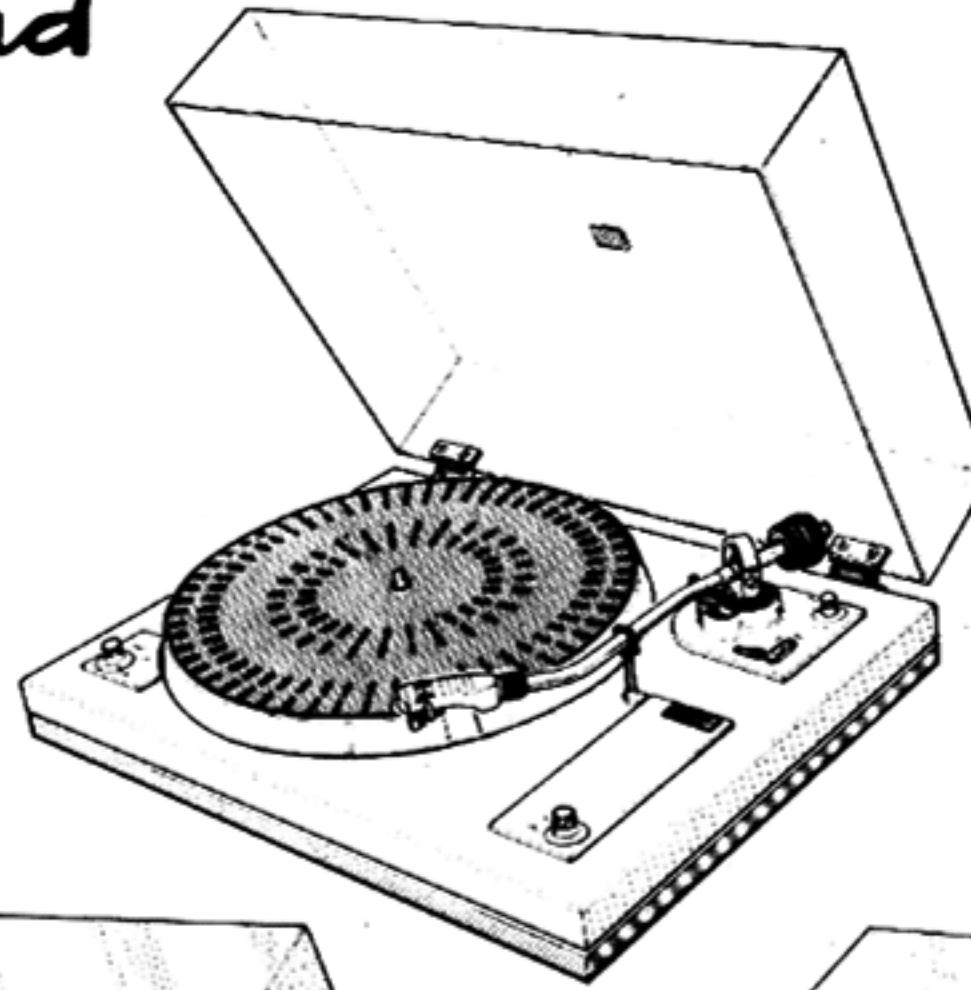

Fig. 3b
- 3(a) If there is a cartridge in the pickup head shell already, attach the shell to the pickup arm. To do this, secure the pickup arm to its rest, then fit the locating pin on the shell into the slot at the front of the pickup arm tube (Fig. 3b). Press the head gently inwards while turning the locking collar fully counterclockwise until the pin engages the collar as it turns and the head is drawn in firmly to make a good connection.